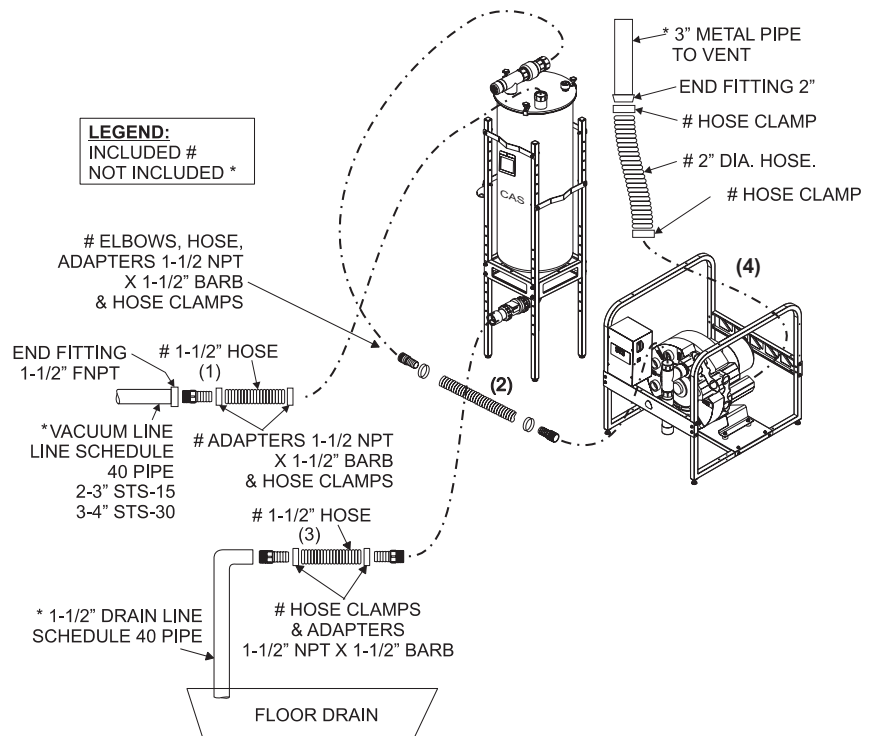
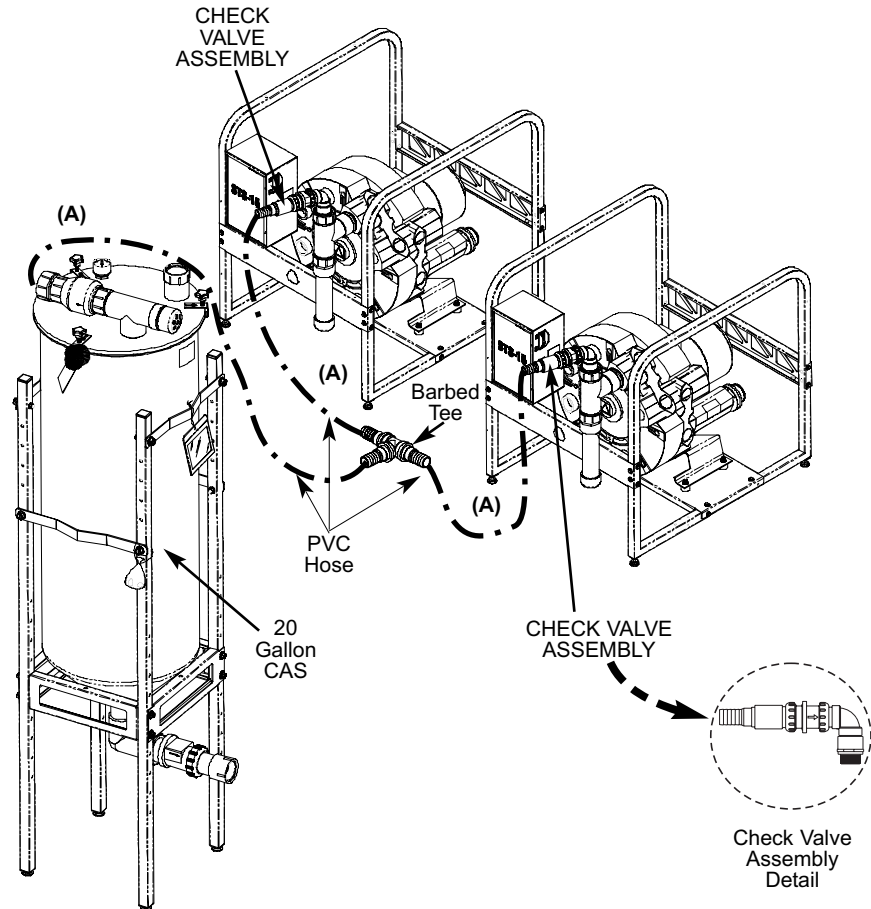
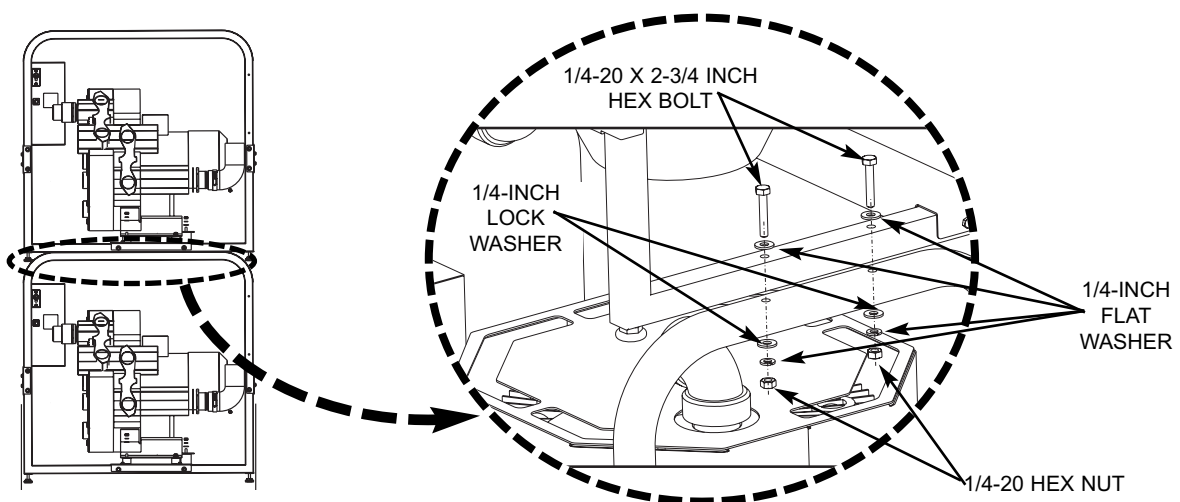

Figure 4. STS Pump and CAS Tank Pipe Connection Diagram
Figure 5. Pump Combining Using Dual System Accessory Kit, P/N 54400
Figure 6. Stacking Two STS Pumps Hardware Detail
Installation Accessory Packs. Figure 4 shows the pipe and hose connections required for all STS configuration installations using accessory packs as follows:
Between the suction line and CAS tank. See item (1) on Figure 4.
Between the CAS tank and STS pump. See item (2) on Figure 4.
Between the CAS tank and drain line. See item (3) on Figure 4.
STS™ Pump Accessory Pack, P/N 54468 - supplied with each STS pump, used to connect the pump to the facility vent line. See item (4) on Figure 4.
Connection Procedure. Installation of a single STS model configurations consists of making connections between a single 20 gallon CAS tank, P/N 54170, and a STS pump, P/N 54110. Refer to Figure 4 for the connection diagram and perform the following procedure.
5. Using industry standard techniques, install pipe to hose adapters as shown in Pipe Connection Diagram Figure 4.
Installation Accessory Packs . Figure 5 shows the pipe and hose connections required for a dual STS configuration installation while Figure 4 shows the other necessary connections. The PVC hose installation is accomplished using accessory packs as follows:
Between the CAS tank and drain line. See item (2) on Figure 4.
Between the CAS tank and combined STS pumps. See item (A) on Figure 5.
STST™ Pump Accessory Pack, P/N 54468 - used to connect each pump to the facility vent line. See item (4) on Figure 4.
STST™ Dual System Accessory Kit; P/N 54400 - used to connect two STS pumps together either side-by-side or stacked. See Figure 5.
Connection Procedure. Installation of the dual STS model configuration consists of making connections between a single 20 gallon CAS tank P/N 54170, and two STS pumps, P/N 54110. The associated pumps can be stacked or installed side-by-side depending on the size of the installation site. When stacking the two STS pumps, refer to Figure 6 showing the method to secure the pumps. In any case, the hose connections between the suction line and CAS tank, the CAS tank and drain line and pump to the facility vent line are identical as shown by Figure 5. Use the STST™ Dual System Accessory Kit; P/N 54400 to connect the two STS pumps together for connection to the CAS tank as shown by Figure 5. Refer to Figures 4, 5 and 6 and perform the following procedure.
1. Install check valves supplied in Dual System Accessory Kit; P/N 54400, on both pumps as shown by Figure 5.
4. Stack the two STS pumps as shown by Figure 6 and secure the pumps together using supplied hardware.
6. Measure and record distance between each connection point as shown in Figure 5.
8. Using industry standard techniques, install pipe to hose adapters as shown in Figures 4 and 5.